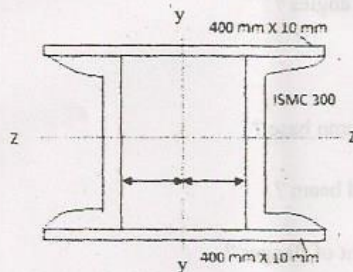

Fig. 13(a)
13. (a) Fig. 13 (a) shows a built up column section. The column has an effective length of 4.75 m. find the design compressive load for the column. Take $f_y = 250$ N/mm².